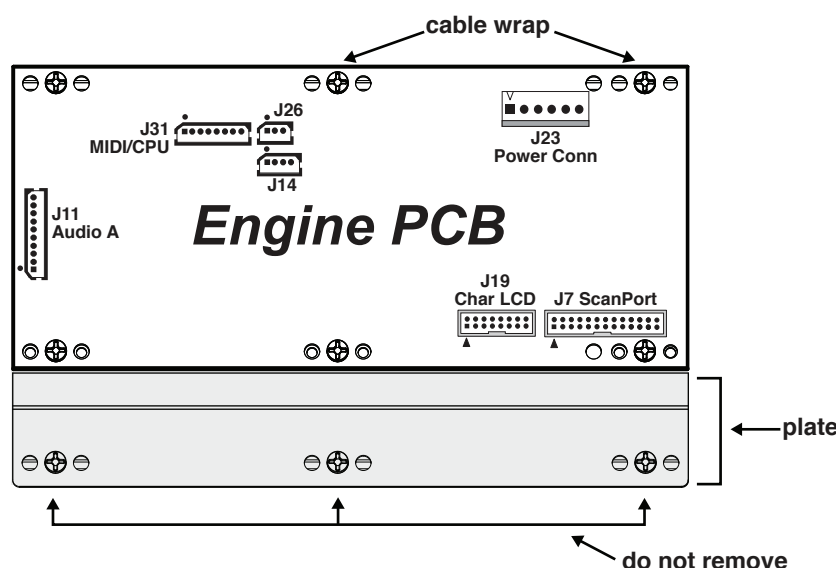

Figure 4-6 Engine PCB connector and hardware locations
5. Unwrap the cable wraps at the locations noted in Figure 4-6.
2. Install the six screws to secure it. Be sure to install the cable wraps at the locations noted in Figure 4-6.